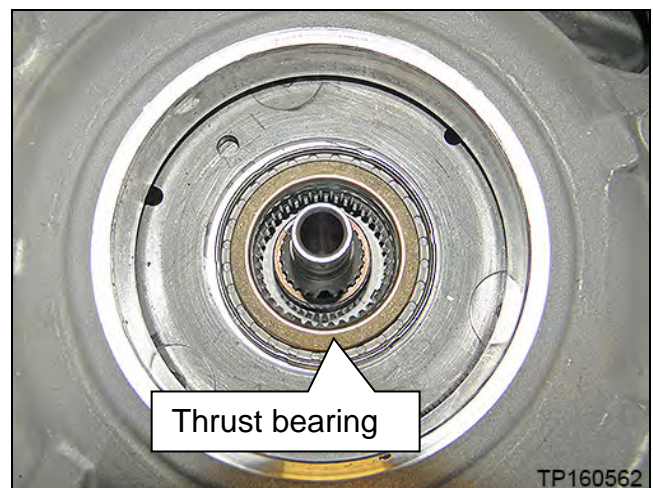

Figure 15E
15. Remove the thrust bearing from the planetary carrier plate (Figure 15E).